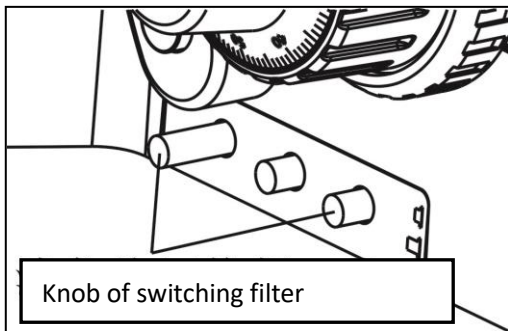

Fig 13
**3-11 Using Frosted Sheet (figure 13)**
As shown in figure 13, the state of using filter is push in the rod. When push out the rod, filter is in an empty state. LBD is a filter of increasing color temperature. ND25 is a filter of 25% light transmittance. ND6 is a filter of 6% light transmittance.
As shown in fig13, converter reserves a slot to hold the extensional function board. The ordinary light field board has been inset the slot before The lens of microscope leaving factory. If using other extensional function board, only need to tear down and loosen ②, pull out the standard light field board, then inset the extensional function board into the slot and freeze the bolt of ②.